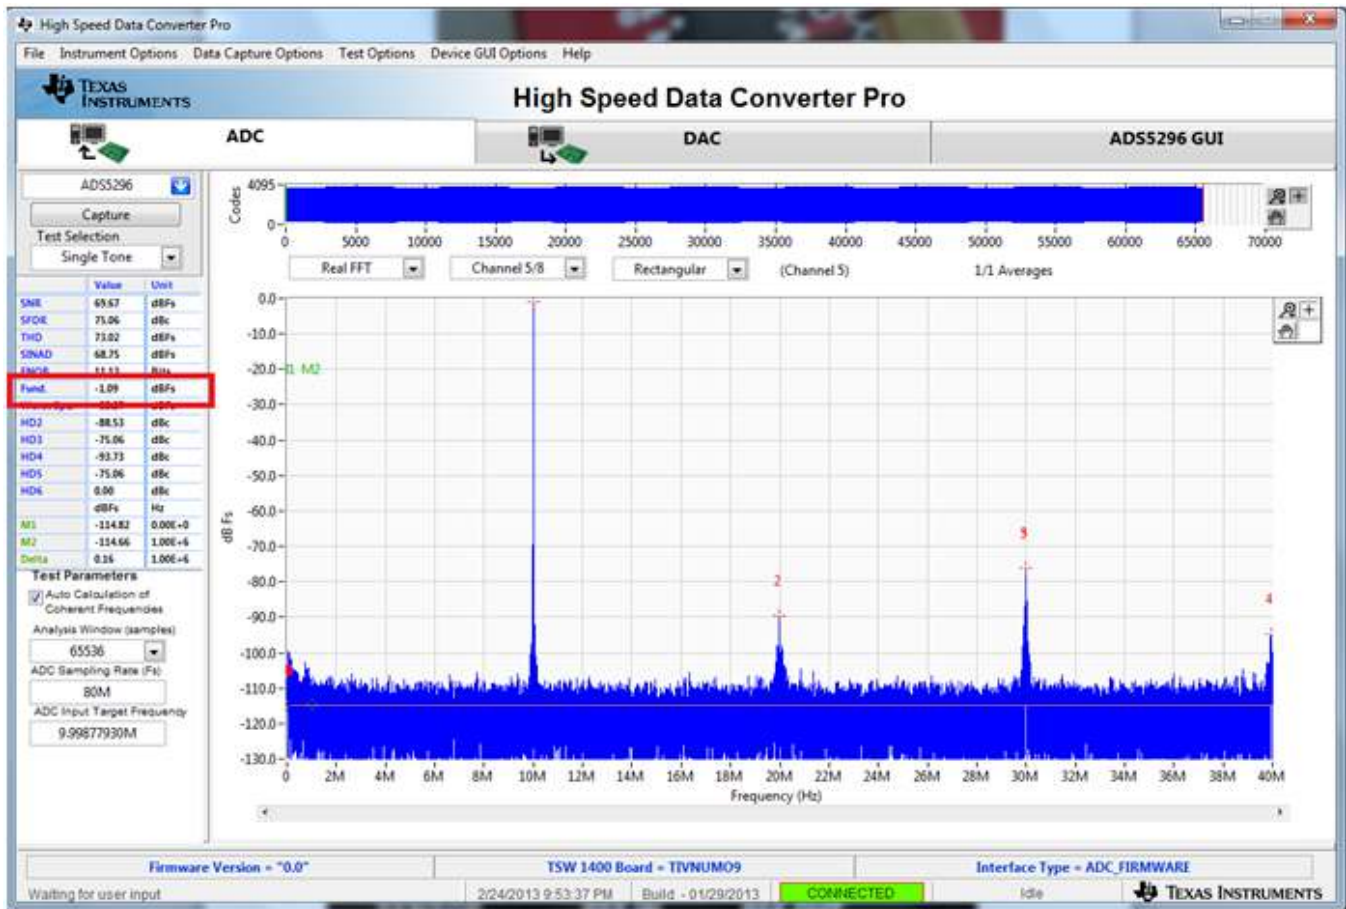

Figure 41. Octal Non-Interleaving Mode Capture 1
- The plot will update as shown in Figure 41. Take note of the *Fund.* value in the left panel highlighted in RED in Figure 41. This value is dependent on the signal level set on the signal generator feeding the input signal to J15. It also depends on cable loss and filter insertion loss which can vary among parts. If needed, reset the signal amplitude (level) until the *Fund.* value is approximately  $-1.0$  dBFs, as this is the condition for which the datasheet specifications are set. In the example shown here, the input level should be changed from 15.0 dBm to 15.1 dBm and then a capture retaken.